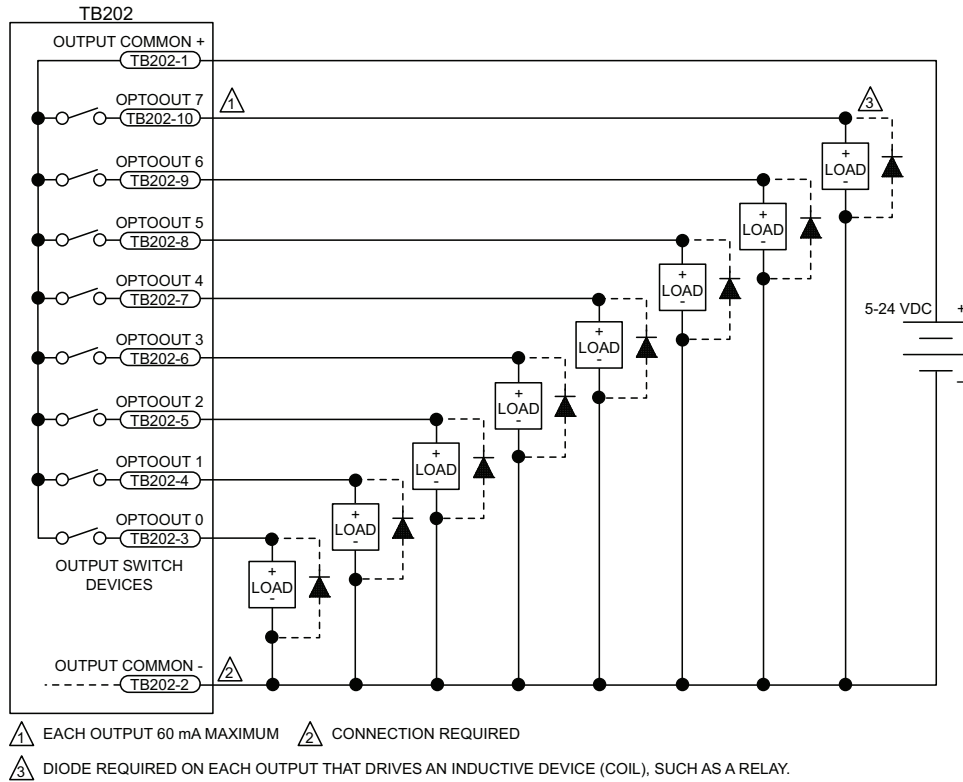
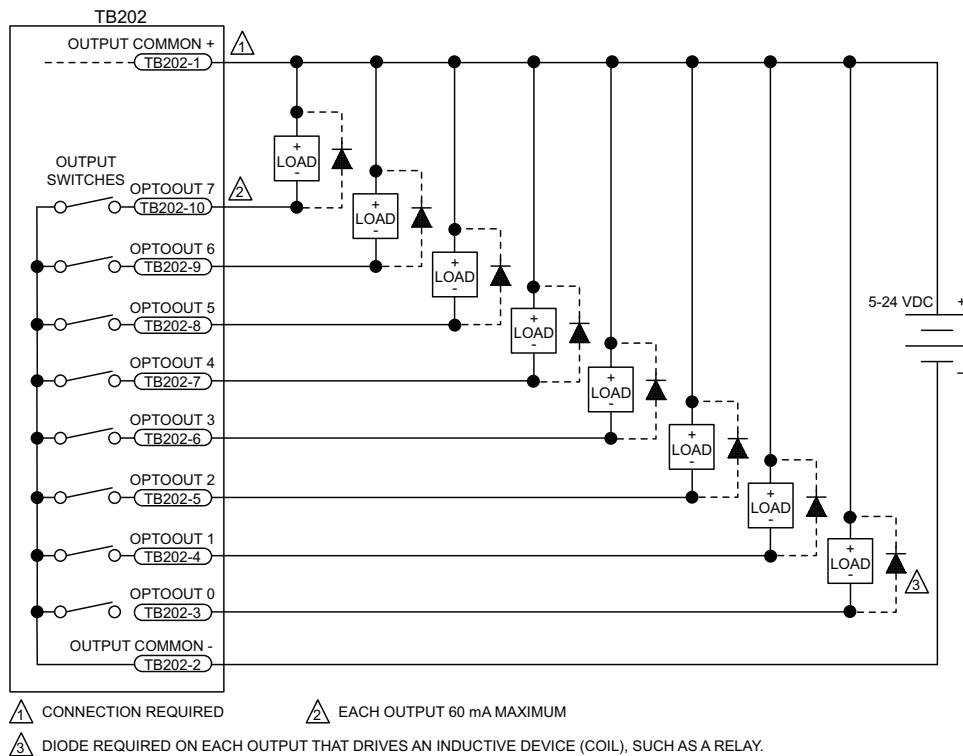

Figure 3-8: Outputs Connected in Current Sourcing Mode
Figure 3-9: Outputs Connected in Current Sinking Mode
The outputs are software-configurable and must be connected in either all sinking or all sourcing mode. Figure 3-8 and Figure 3-9 illustrate how to connect to an output in current sourcing and current sinking modes.
Suppression diodes must be installed on outputs driving relays or other inductive devices. This protects the outputs from damage caused by inductive spikes. Suppressor diodes, such as the 1N914, can be installed on all outputs to provide protection. It is important that the diode be installed correctly (normally reversed biased). Refer to Figure 3-9 for an example of a current sinking output with diode suppression and Figure 3-8 for an example of a current sourcing output with diode suppression.
NOTE: Power supply connections must always be made to both the Output Common Plus (OP) and Output Common Minus (OM) pins as shown in Figure 3-8 and Figure 3-9.